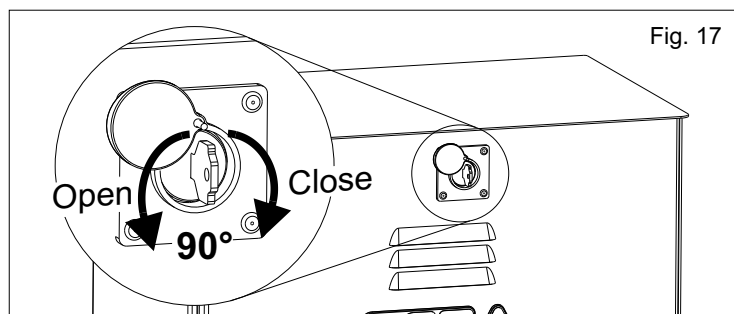

Fig. 17
- Open the lock cover, insert the key and turn it 90° anti-clockwise (Fig. 17).
- Reposition the carter and close it by turning the key 90° clockwise (Fig. 17).